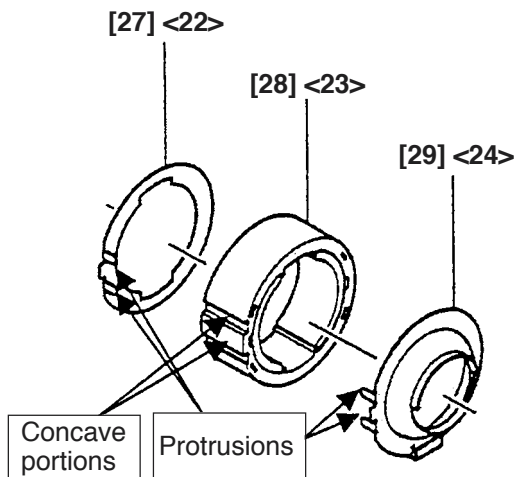
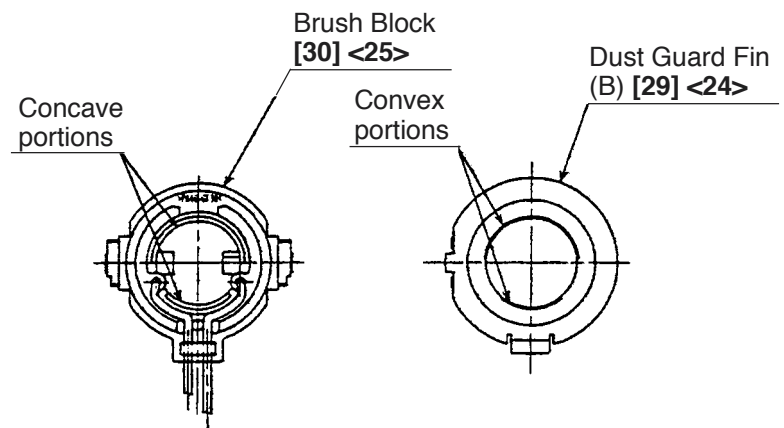

Fig. 14
Fig. 15
- Adjust the protrusions of Dust Guard Fin (B) [29] <24> to the concave portions of Magnet (E) [28] <23> and also adjust the outside diameter of Dust Guard Fin (B) [29] <24> to the outside diameters of Magnet (E) [28] <23> when mounting Dust Guard Fin (B) [29] <24> to Magnet (E) [28] <23> (see Fig. 14).
- Insert the two Dampers [24] <19> so that they fit into Inner Cover (A) [25] <20>. Fit the locking rib of Ring Gear (C) [21] <16> to the concave portion of Damper [24] <19>. Press-fit the Armature Ass'y (W/ Ball Bearing) DC 9.6V [26] <21> into Inner Cover (A) [25] <20>.
- Adjust the convex portion of Dust Guard Fin (B) [29] <24> to the concave portion of the Brush Block [30] <25> (see Fig. 15).
- Adjust the concave portions (for locking) of Magnet (E) [28] <23> to the protrusions of housing (A) (see Figs. 14 and 16).